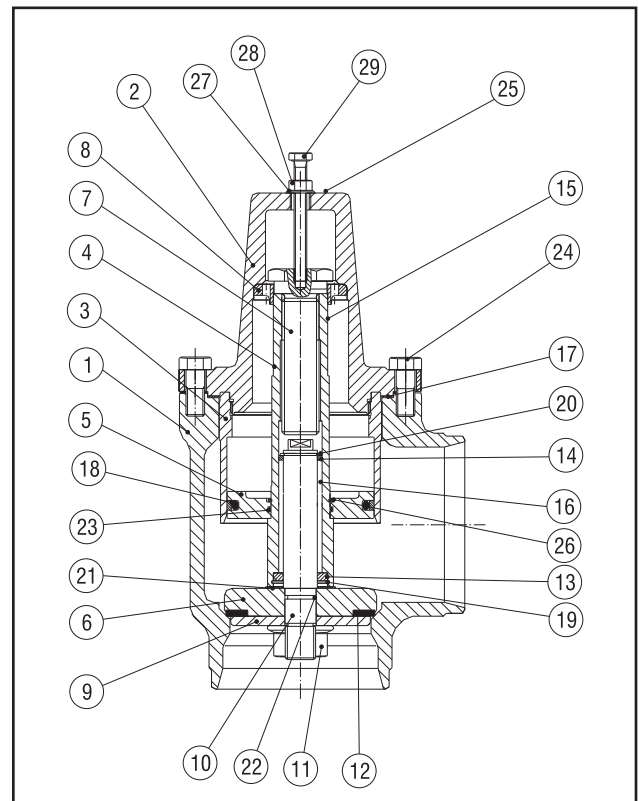

Figure 33 - Cold-Start Valve
Inside the valve (see Figure 33) there is a very heavy, tight spring (15). Provided the valve is intact, the spring presents no danger when dismantling. The spring is compressed with a large bolt (7). If it is necessary to repair the valve, it can be dismantled as follows: